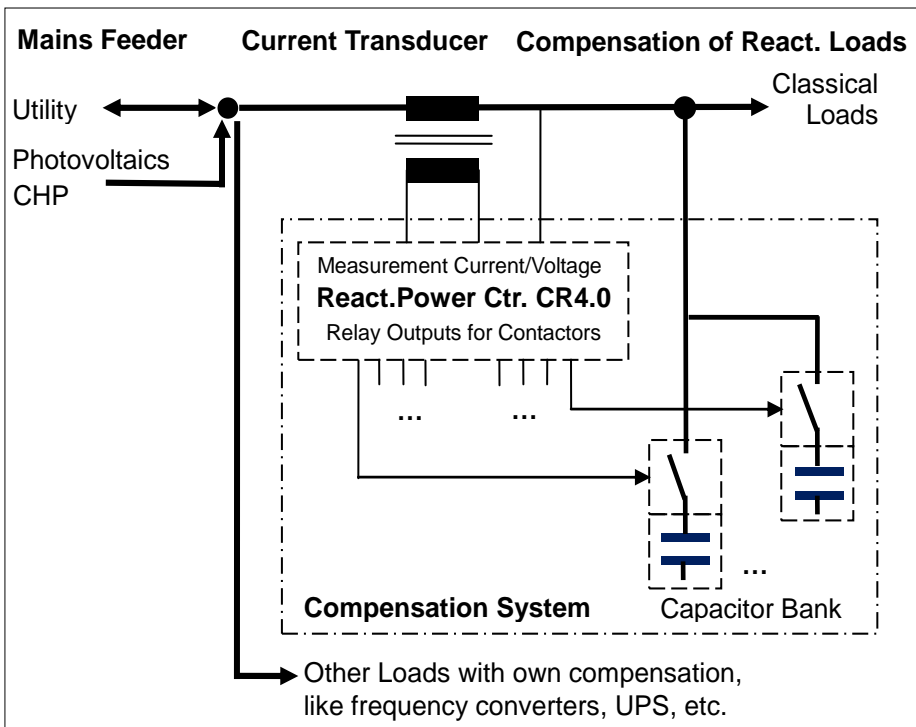

Figure 1
- The **current transducer** must be placed in-between all left sided feeding equipment and all right sided load equipment including the compensation system itself, see Figure 1 Installation Diagram on page 4. Loads comprising their own compensation (e.g. frequency converters, uninterruptible power supply UPS, etc.) should not be included in the reactive power compensation.
With all feeder and the section switches at the left of the current transducer and all loads to be compensated and the compensation system itself at its right side, see Figure 1 Installation Diagram a standard compensation system fits.
If you have **power generators** (e.g. a photovoltaic plant) installed with the loads **on the right side** of the current transducer (see Figure 1 Installation Diagram) the Reactive Power Controller CR4.0 is not able to see the current between the loads-sided generators and the loads resp. the capacitor bank. Misregulation and particularly switch-off of steps after wrong steps powers measurement may result. Please correct your installation (it would anyway not be accepted by your utility company nor by the subvention authority).
- **Reactive Power Compensation and Emergency Power Supply:** Usually it is recommended that a stationary emergency power plant should not be stressed by a reactive power compensation. The diesel generator itself is able to provide any reactive power needed. For this the emergency power plant has to be connected at the right side of the current transducer, see Figure 1 Installation Diagram. Then the reactive power compensation plant automatically idles when the emergency power plant takes over from the utility feeder.